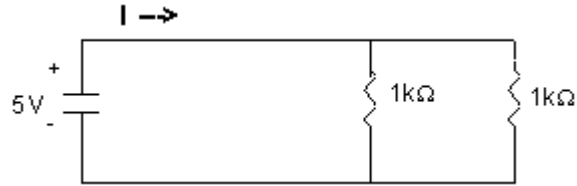

Figure 2. Parallel resistor circuit.
6. Assemble the circuit shown in Figure 2. **Q5:** How much current do you expect to flow through each resistor? Measure  $I$ , and the current through each resistor. Do your results make sense?